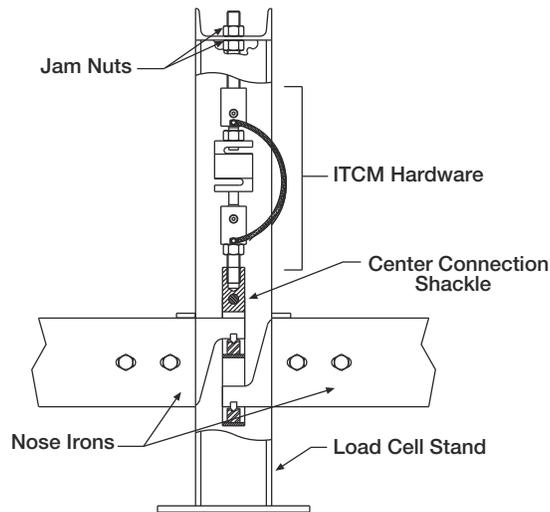

Figure 2-2. Load Cell Assembly
2. Assemble the load cell, ITCM hardware, and center connection shackle to support the nose irons, see Figure 2-2.